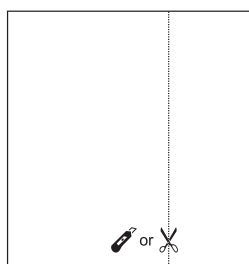

Fig.21
Step 2. Remark a line on the provided R1 insulation panel according to a length $1/8"$ (3mm) less than the measured width in step 1, then cut the R1 insulation panel along the line (Fig.21).